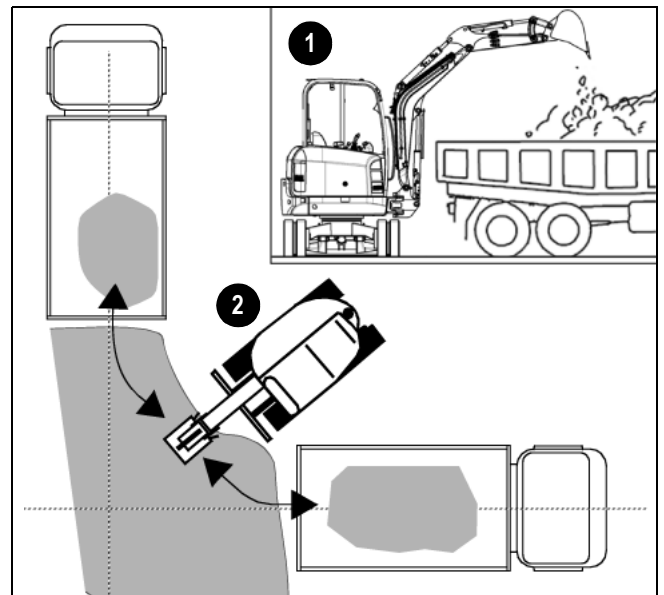

Figure 3-42 Loading Vehicles
- When work conditions permit, position the truck so the excavator can load material at the rear of the truck instead of the sides (1, Figure 3-42). The most effective way to load into the rear of the truck is when the truck and excavator form a 45° angle (2, Figure 3-42).